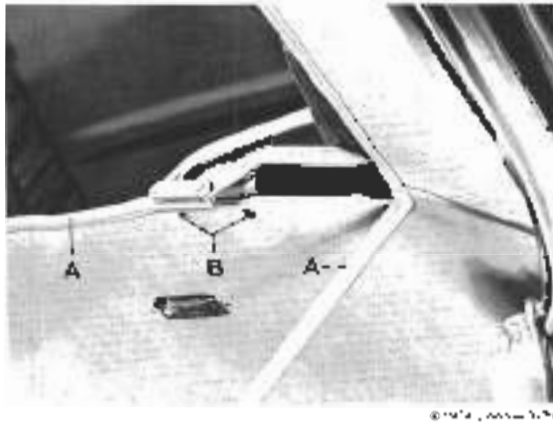

Fig. 7-21. Screws with self-locking nuts B that must be removed before you can remove beading A.
3. Pull the beading (Fig. 7-21) off the roof frame until the beading no longer contacts the front roof panel.